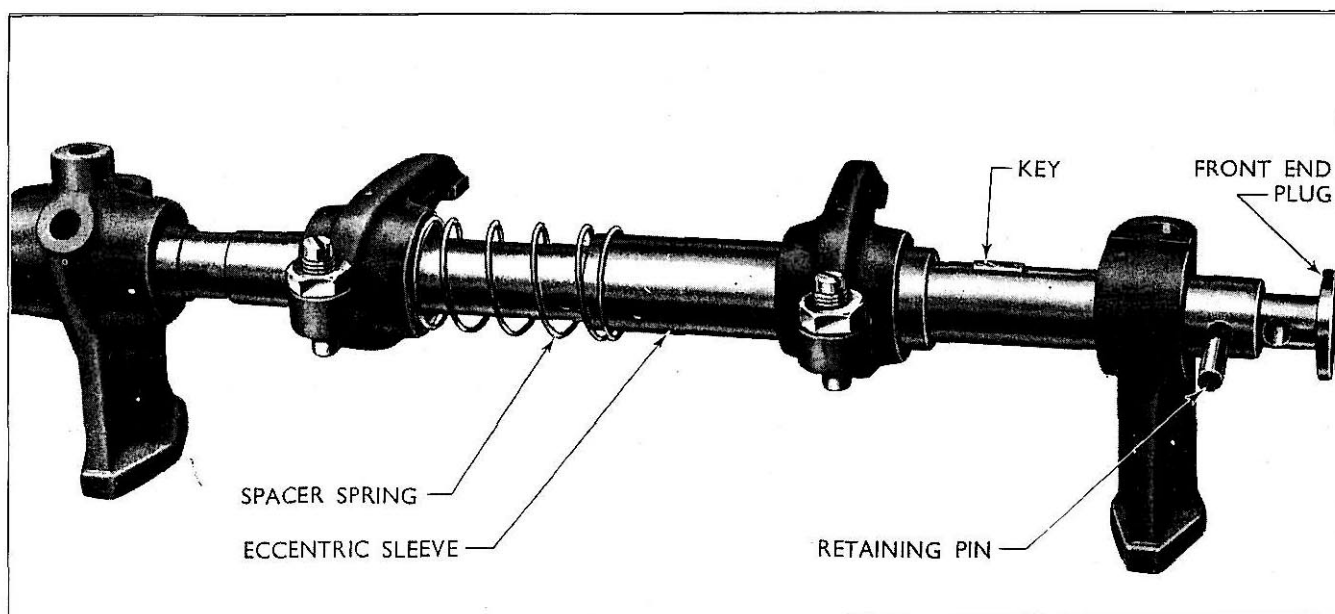

Fig. 2
- 2 Fit the support brackets, keys, eccentric sleeves, rocker levers and spacer springs in their correct order as shown in Fig. 2. The front and rear brackets are interchangeable, as also are the intermediate brackets, which are identified by a tapped hole for the rocker cover bolt. Ensure that the support bracket bolt holes are to the right viewing the shaft from the front end, with each pair of rocker levers inclined towards each other at the valve end.